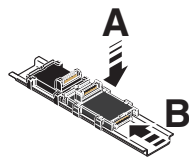

Fig. 7-6 Connecting bus base modules to each other
- Install all other bus base modules required for the station onto the DIN rail (Fig. 7-6, A).
- Push each subsequent bus base module into the connection of the previous bus base module (Fig. 7-6, B).